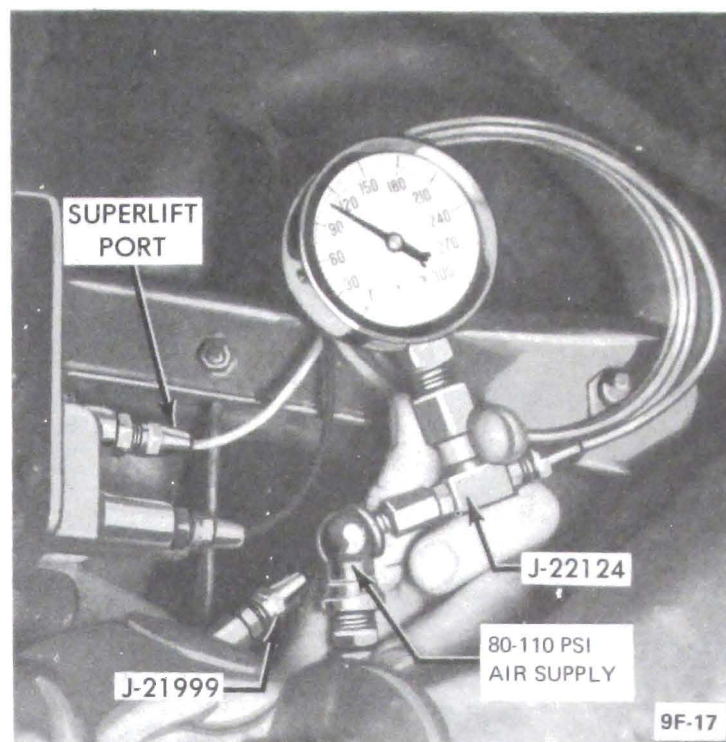

Figure 9F-21 - Connect Test Gage to Superlift Outlet
2. Hold overtravel body down in exhaust position until air escapes from exhaust port. See Figure 9F-23.